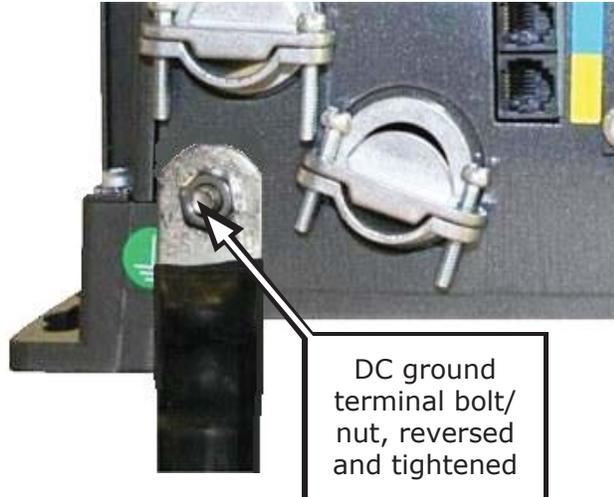

Figure 2-15, Connecting a Large DC Ground Wire
DC Side – Since the currents on the DC side are higher than the AC side (10 times at 12 volts), the equipment grounding needs are different. The DC equipment grounding conductor is sized per Table 2-4, and connected to the DC equipment grounding terminal on the inverter as shown in Figure 2-15.
4. Reverse the removed bolt, and place it back in the chassis hole. Attach a correctly sized ground cable with a ring terminal to the ME-G chassis—as shown in Figure 2-15.